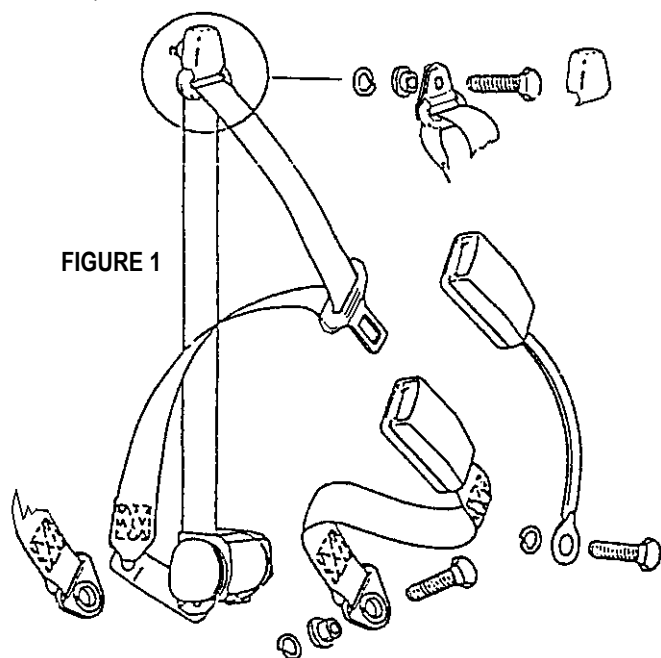
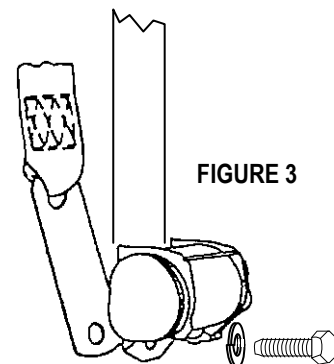

FIGURE 1
FIGURE 3
1. When the inertia reel is removed from the box it will have a certain amount of webbing drawn from the spool and will be locked by a limit cam. **Do not remove the limit cam until inertia reel has been mounted in correct position.** Refer to 'Retractor Angles' section on the 'Information on Unlocking the Retractor' instruction sheet to determine your retractors correct mounting position. Mount the inertia reel and lower anchor as per figure 3. Remove and dispose of the 'limit cam' and then slowly move the sash guide assembly into position and mount it with the aid of the fittings provided, as shown in figure 1.
1. Assemble the sash guide and fittings as shown in figure 1.
1. Assemble the buckle and fittings as shown in method 'B1' & 'B2' for vehicles without an in-built anchorage. For vehicles with an in-built anchorage, only the bolt spacer and or the spring washer are required as shown in Fig 1.